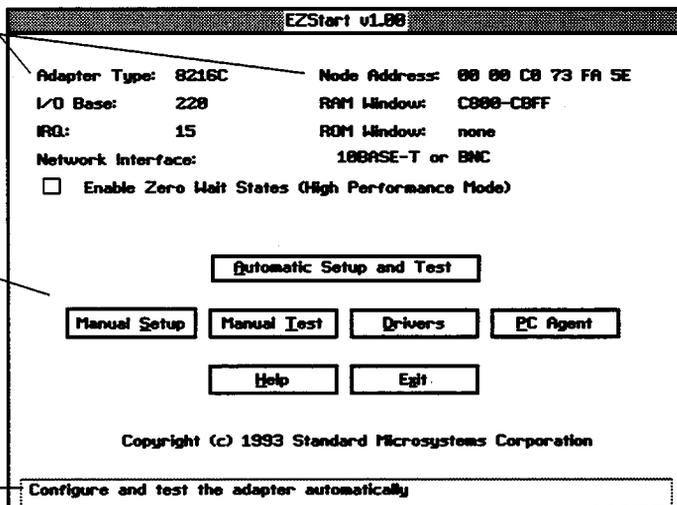

Figure 5-1. EZStart Main Screen
3. Type EZStart and press Enter. The EZStart main screen appears (see Figure 5-1).